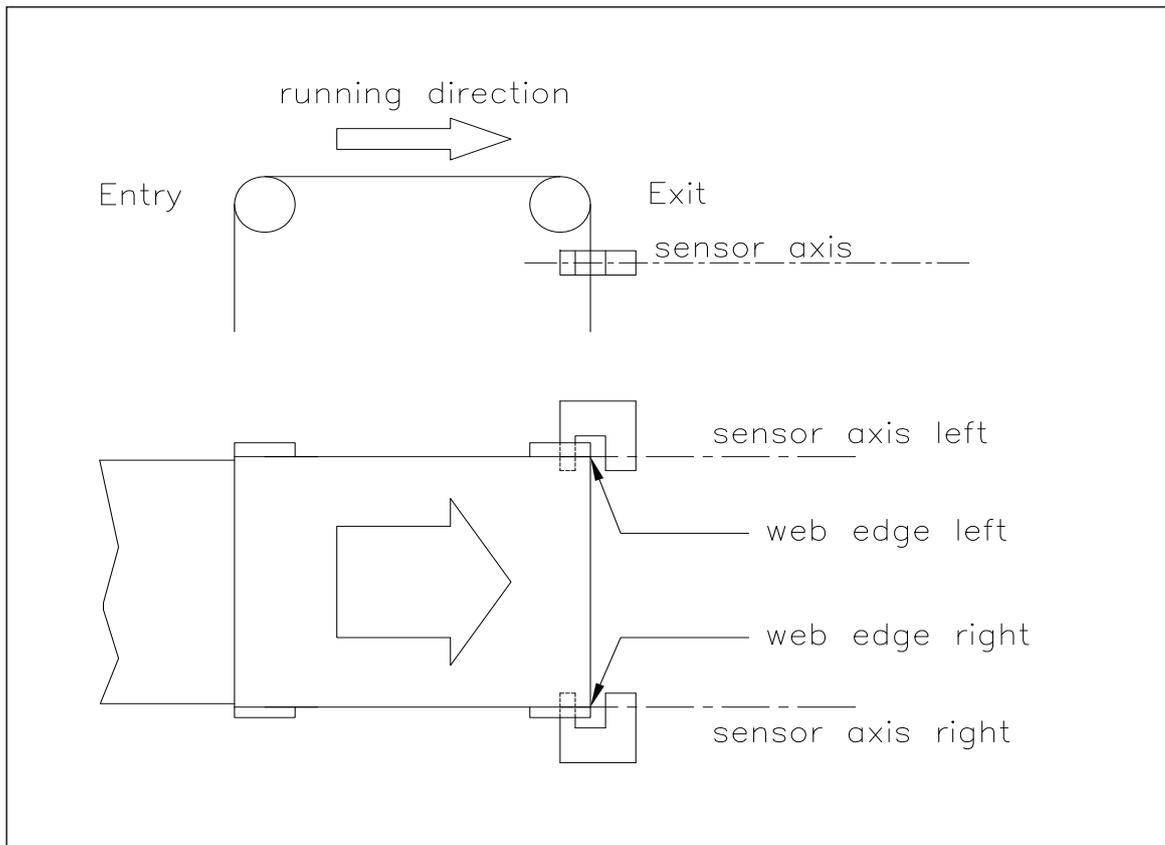

Fig. 2: Position of the sensors according to the web
-  Make sure that the sensor(s) are connected properly to the electronic unit by means of the delivered cables. For left / right orientation please refer to Fig. 2. If the connections are crossed over, malfunction can be the result.**
They have to be installed after the outbound roller. Mount them as close as possible to the steering frame (see **Fig. 2**). The sensors are connected to the web guide controller by means of the delivered orange cables. Refer to the operation manual AZS01, US01B for further information about the sensors.
Left and right are always seen in direction of the running web (see Fig. 2).
Make sure that the sensor(s) are connected properly to the electronic unit by means of the delivered orange cables. For left / right orientation please refer to Fig. 2. If the connections are crossed over, malfunction can be the result.